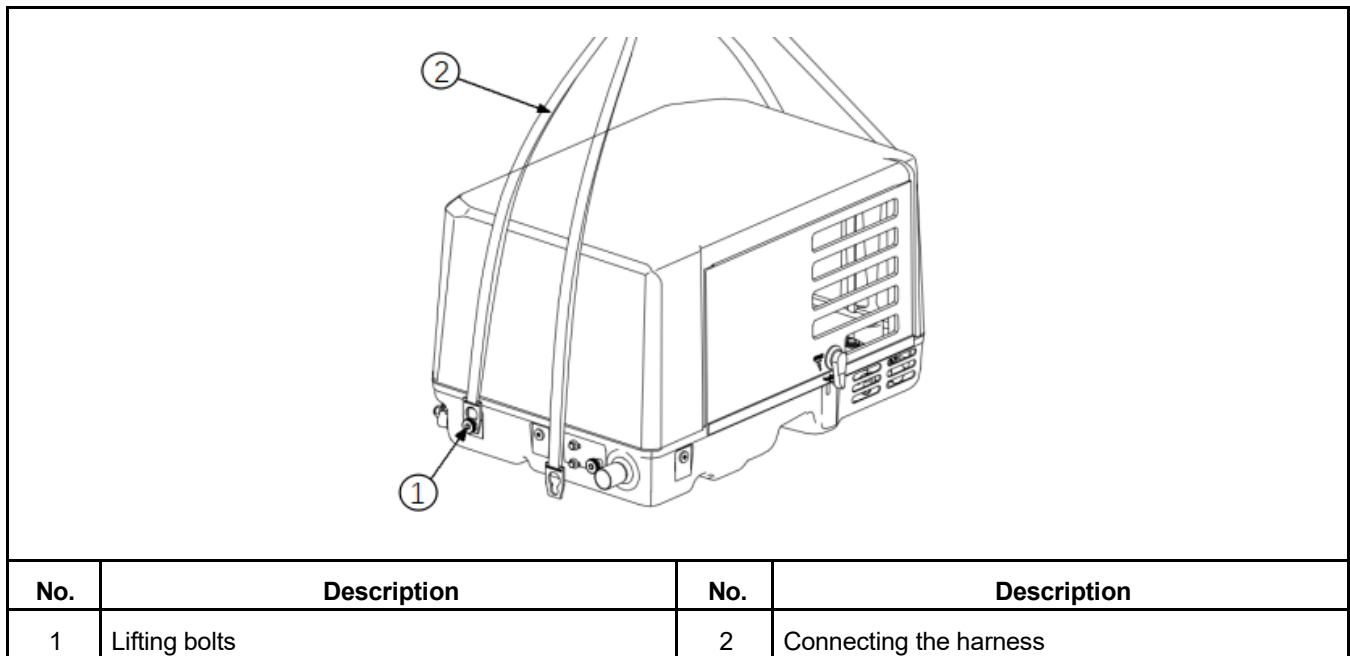

FIGURE 8. GENERATOR LIFTING POSITION
- Four M10x1.5, length 20mm bolts into the ends or bottom of the base (Figure 8) are used to secure the generator set to special brackets from the vehicle floor, frame, or to frame members underneath (Figure 8).
- Four M10x1.5, length 20mm bolts into the bottom of the base (Figure 8) are used to secure the generator set to the floor of the compartment.
Figure 8 illustrates the four lift-hook slots for generator set lifting. A lifting rig must spread the hook straps such that they do not crush or bend parts such as the control box, air filter and fuel lines while lifting. See the Specifications section regarding the weight of the generator set and make provisions accordingly for safe handling.